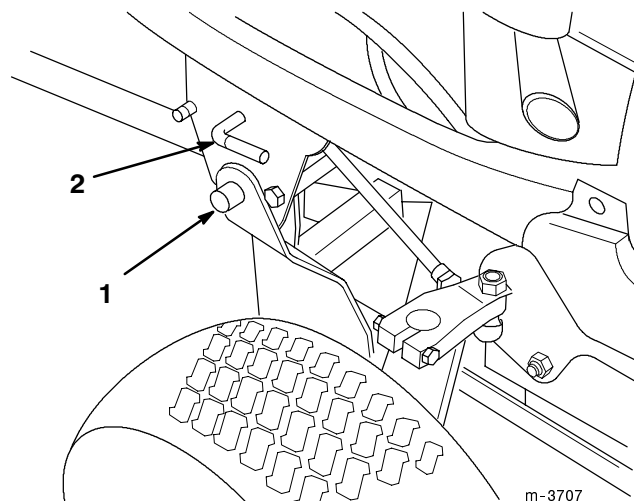

Figure 13
D. Use the crank support as a lever to lift the snowthrower frame until its connecting pins are completely inside the notches in the mid Attach-A-Matic™ (Fig. 13).
E. Turn the mid Attach-A-Matic™ lever counterclockwise to lock the snowthrower in place (Fig. 13).